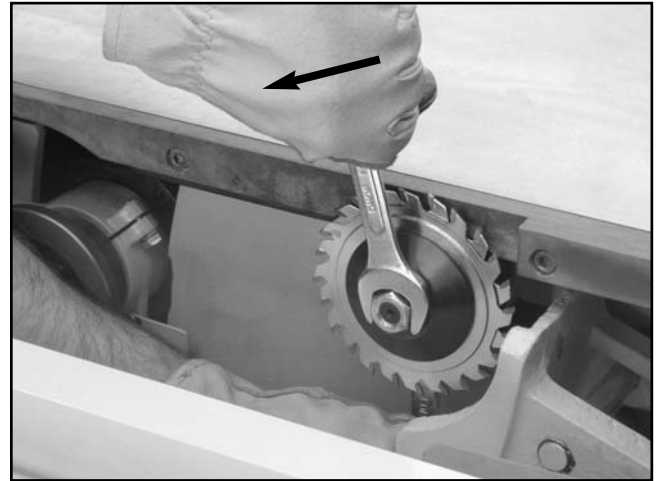

Figure 89. Loosening scoring blade arbor nut.
6. Place a 23mm wrench behind the scoring blade on the flats of the arbor shaft, and use a 22mm wrench at the front to remove the arbor nut and flange, as shown in **Figure 89** (turn counter-clockwise).